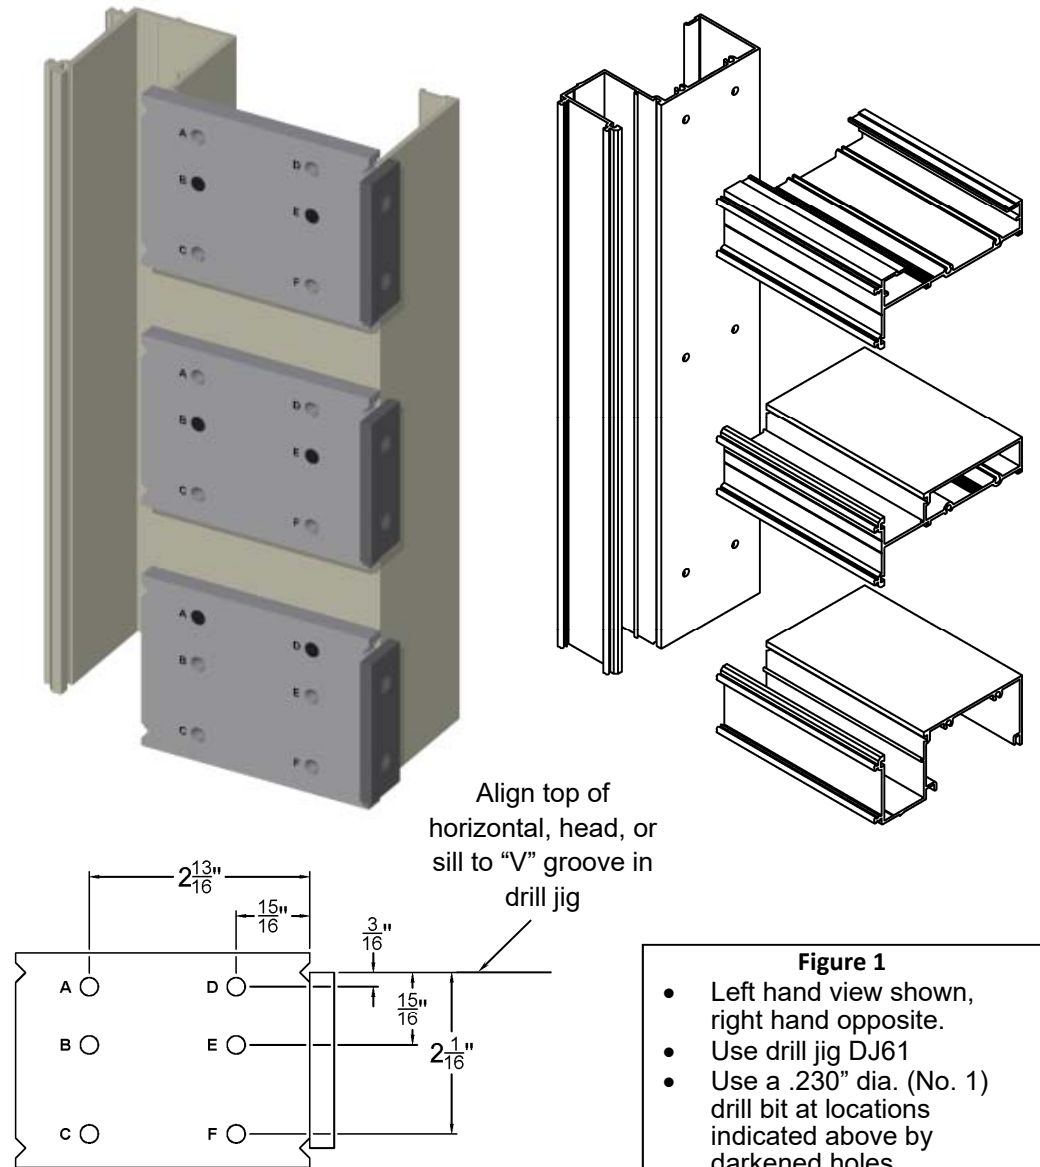

Figure 1
- Layout holes per figure 1, and drill.